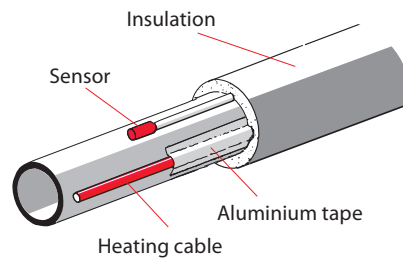
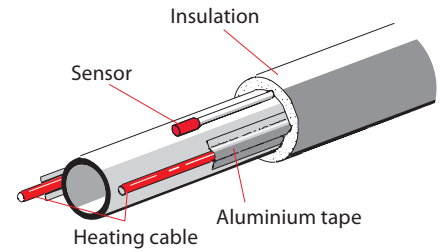

Fig. 7
Fig. 8
1. One or more cables are led in a straight line along the side of the pipe, see fig. 7 and fig. 8.